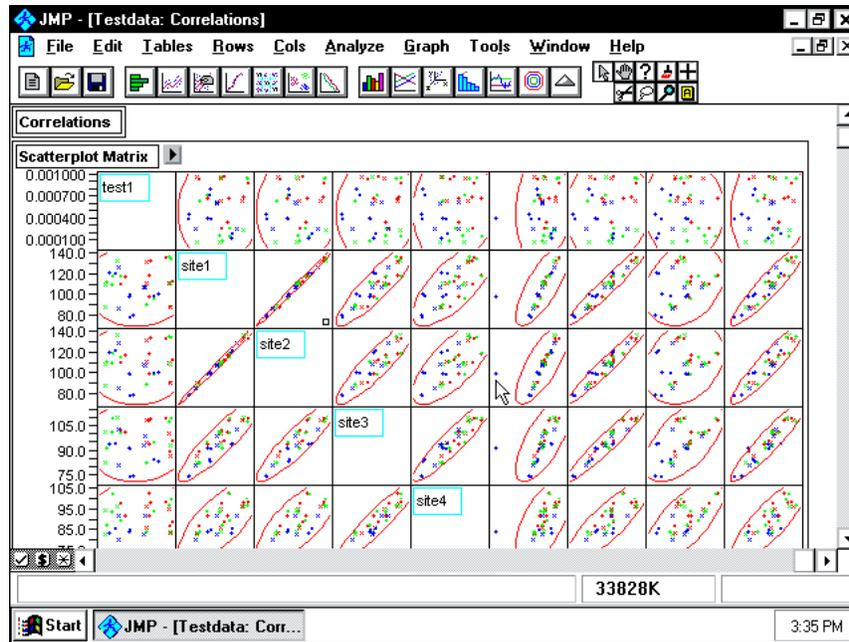

Figure 2. A Scatterplot Matrix from the Correlation of Y's Platform.
**Scatterplot Matrix** See Figure 2.